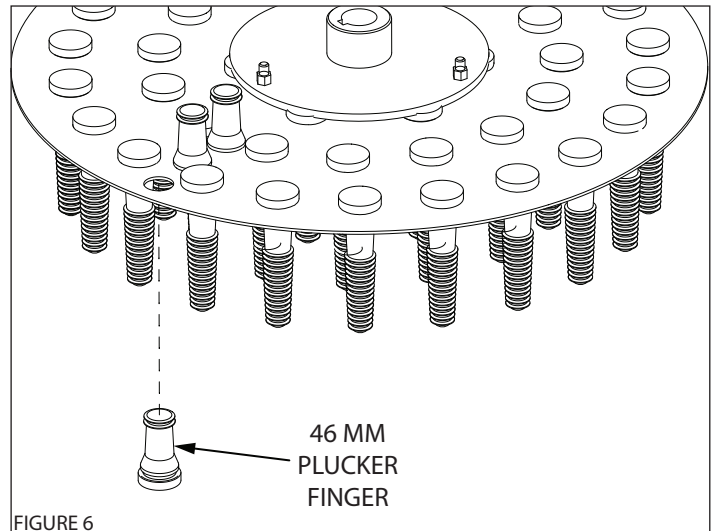

FIGURE 6
8. Insert 46 mm plucker finger into opening on underside of feather plate. (**SEE FIGURE 6**)